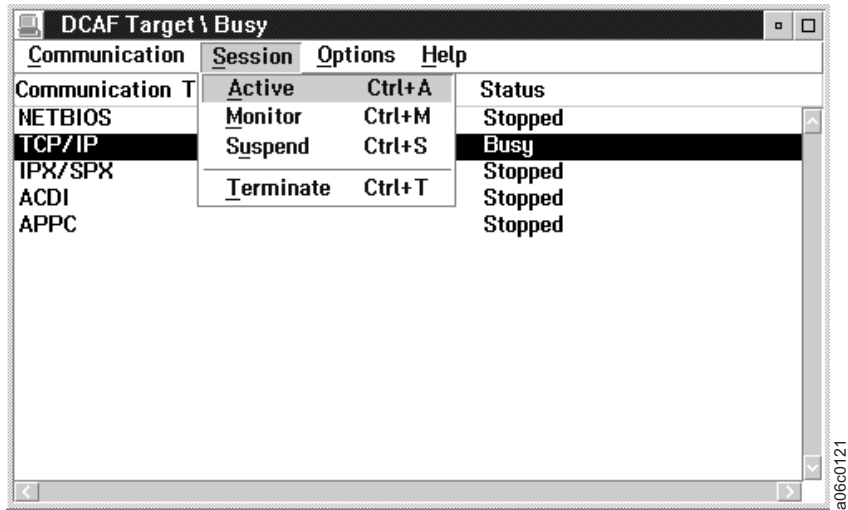

Figure 239. Active Session
3. In the DCAF Target \ Busy window (Figure 239 on page 358), select the Session window, then select the **Active** or **Monitor** option.